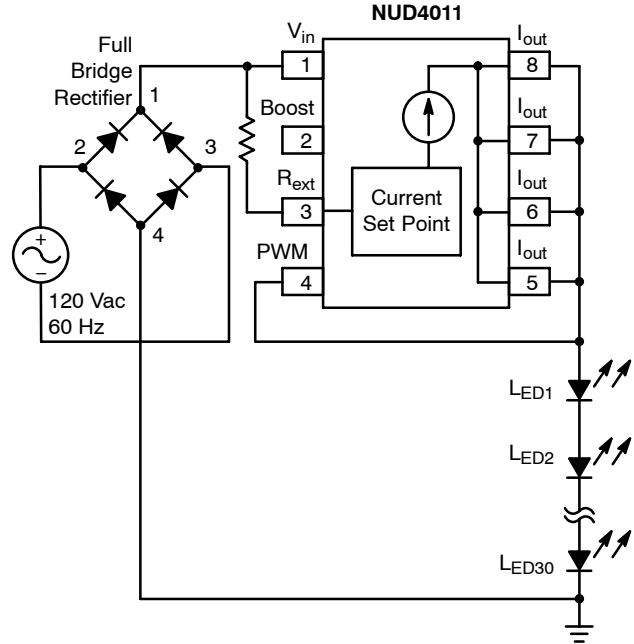

Figure 6. 120 Vac Application (Series LED's array)
- a. Per example in Figure 6,
Since a full bridge rectifier is being used (per Figure 6), the frequency of the voltage signal applied to the NUD4011 device is now 120 Hz. To simplify the calculation, it is assumed that the 120 Hz waveform is square shaped so that the following formula can be used: